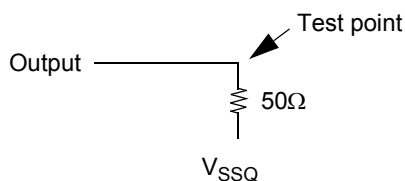

Figure 2. Pull-up slew rate test load
a. Pull-up slew rate is characterized under the test conditions as shown in Figure 2